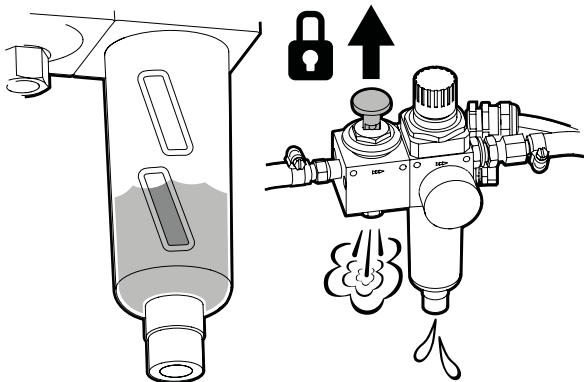

Fig. 19
1. Pull the lockable safety switch upward and the pressure tank evacuates (**Fig. 19**).
2. pull the lockable safety switch upwards, draining the water separator as the pressure tank is evacuated (**Fig. 19**).